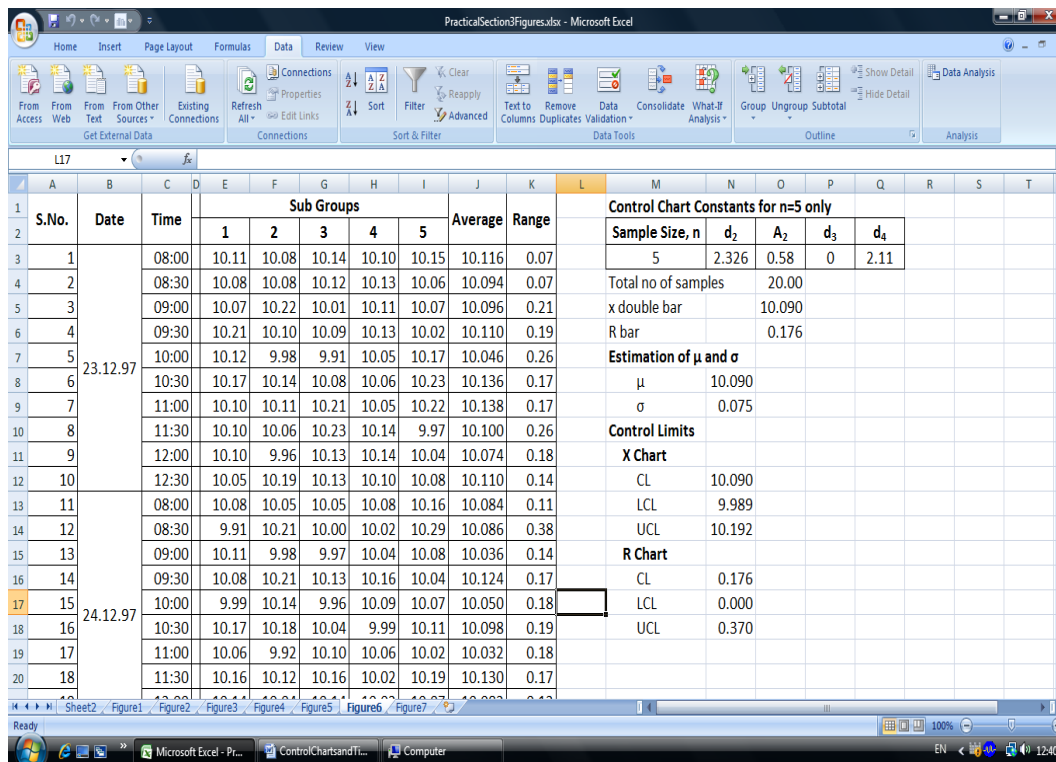
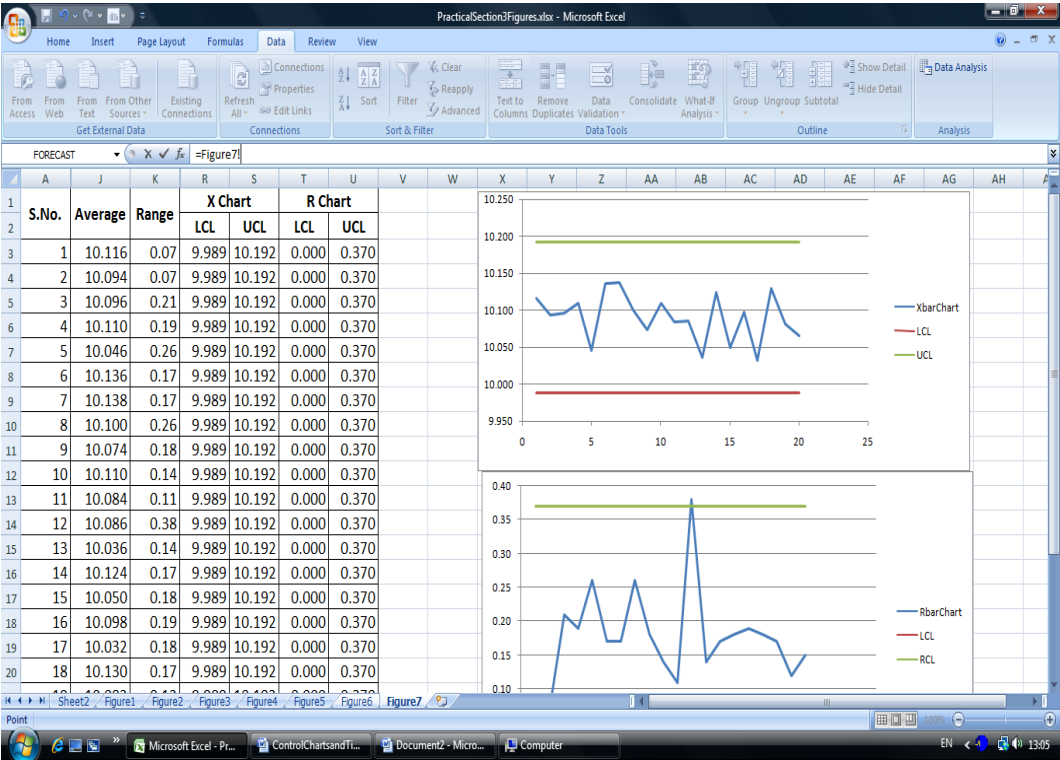

Figure 6: Calculation of  $\mu$  and  $\sigma$  for refill length
Figure 7: Control Charts (x-chart and R-chart) for the refill length data
**Problem 1:** (Reference MCS040/Block 3/Unit 11/Page 83), Data for the length of refills and control chart constants (only for sample size ( $n = 5$ )) are shown in Figure 6. This data is drawn from the Table 1 and Table 2 of the said Unit. You may now estimate  $\mu$  and  $\sigma$  from the refill length data and calculate the control limits for  $\bar{X}$  and  $R$  charts.
The said Unit shows the calculations that are performed with the help of spreadsheet and shown in Figure 6.
For creating Figure 6, you can use your own formulas.
- on the basis of these calculated values, you can create data as shown in Figure 7.
- You may use Scatter Plot to draw the charts as shown in Figure 7.
Please note that in Figure 7, that the 12th point on the R-chart crosses the UCL line, which is indicative of “process out of control” situation with respect to variability (as this problem has been detected in R-chart). Consequently, we conclude that during this time period the process may not be stable.
1) Develop the spreadsheets as shown in Figures 6 and Figure 7.
Please use any spreadsheet package and enter all the data as shown in Figure 6 and Figure 7. You may download the file containing all these figures from the website [www.ignou.ac.in](http://www.ignou.ac.in) from BCA page under MCSL044. Find out what formulas have been entered. Also find the errors in the entry of formula.